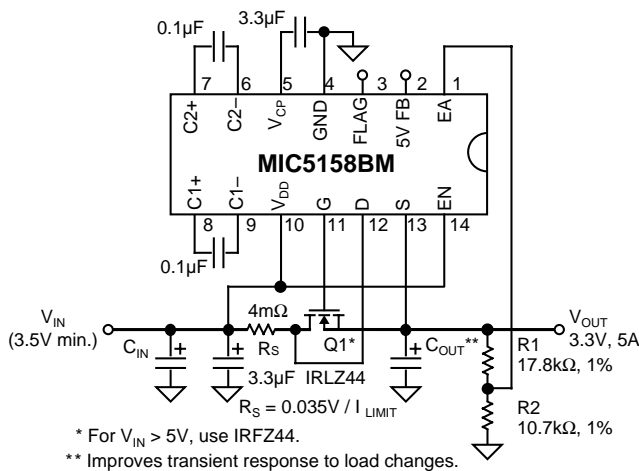

Figure 1. Regulator Circuit Diagram
A demonstration board is available for evaluating the MIC5158. The circuit is designed to produce a 3.3V, 5A output from a 5V input. The design goal was to occupy as little PCB space as practical, so minimizing sense resistor area was important. In Figure 1 this resistor is shown as R_S .
The 4-m Ω current-sensing resistor (R_S) of Figure 1 is designed as follows: (1) based on copper trace height and an allowed temperature rise for the resistor, calculate the sheet resistance (Equation 1); (2) based on the maximum current the resistor will have to sustain, calculate its minimum trace width (Equation 2); and (3) based on the desired resistance, calculate the required trace length (Equation 3).